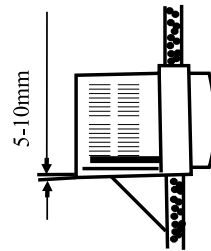

fig.3
5. To have an efficient drainage, the back part of the air-conditioner should be inclined downward by 5-10mm (As illustrated in Fig. 3).